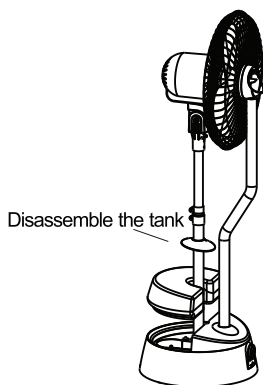
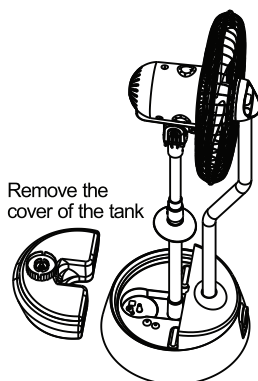
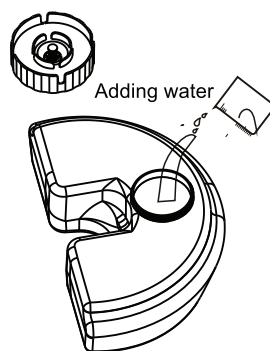

Figure 1
Figure 2
Figure 3
Connect the two iron columns (See Figure 3) by aligning the two fixing holes of the upper and lower column, and then tighten them with the screw (4x10) from the package.
- See (Figure1) Turn the tank lock (Figure1) to the on-lock position (Figure1), take off the water tank (Figure2) from the fan body, and unscrew the lid (Figure3) of the water tank.
- Turn the tank lock (Figure3) to the off-lock position (Figure1) to secure the tank.
1. Fan control panel (as shown in Figure 2), Remote control (as shown in Figure 3).
- \* Then release the rubber plug to empty the water in the pedestal of humidifier (See Figure 3);
- \* Disassemble the fan as demonstrated in Figure 2;